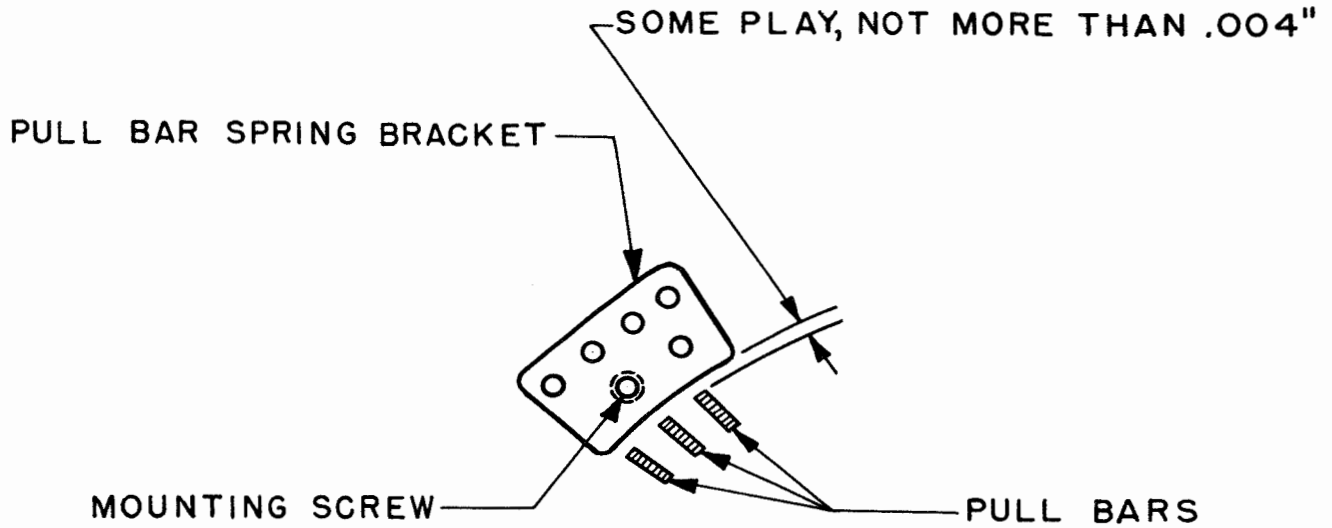

Figure 19
2.31 Pullbars: On units equipped with the three-piece pullbar-spring bracket, the extreme right-end and left-end pullbars and the fourth from the right-end and the third from the left-end (second from left-end when the blank pullbar is not furnished) should have play, not to exceed 0.004 inch, between the spring bracket and the pullbar when the pullbar bail is in its extreme rear position and the corresponding typebar is raised to the typebar guide. See Figure 19.